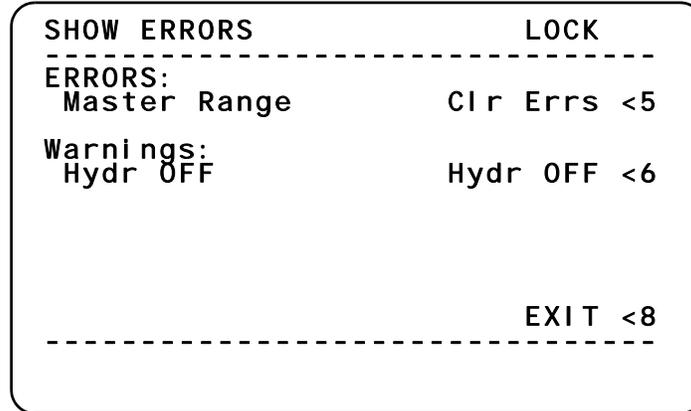

Figure 3 SHOW ERRORS menu
1. Use the SHOW ERRORS menu (Figure 3) to identify the error.